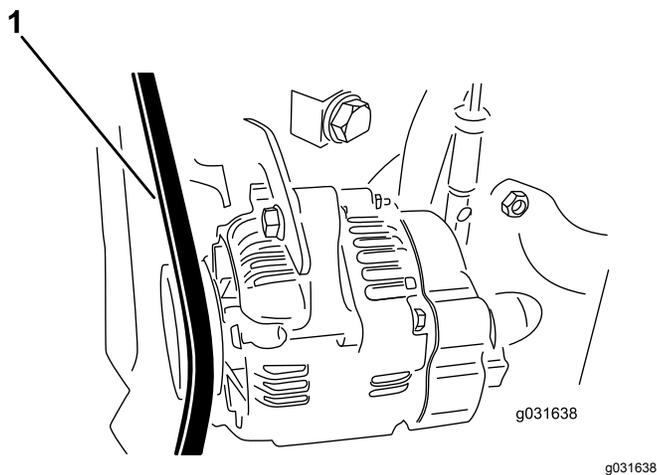

Figure 76
4. Apply 30 N (22 in-lb) of force to the alternator belt, midway between the pulleys (Figure 76).